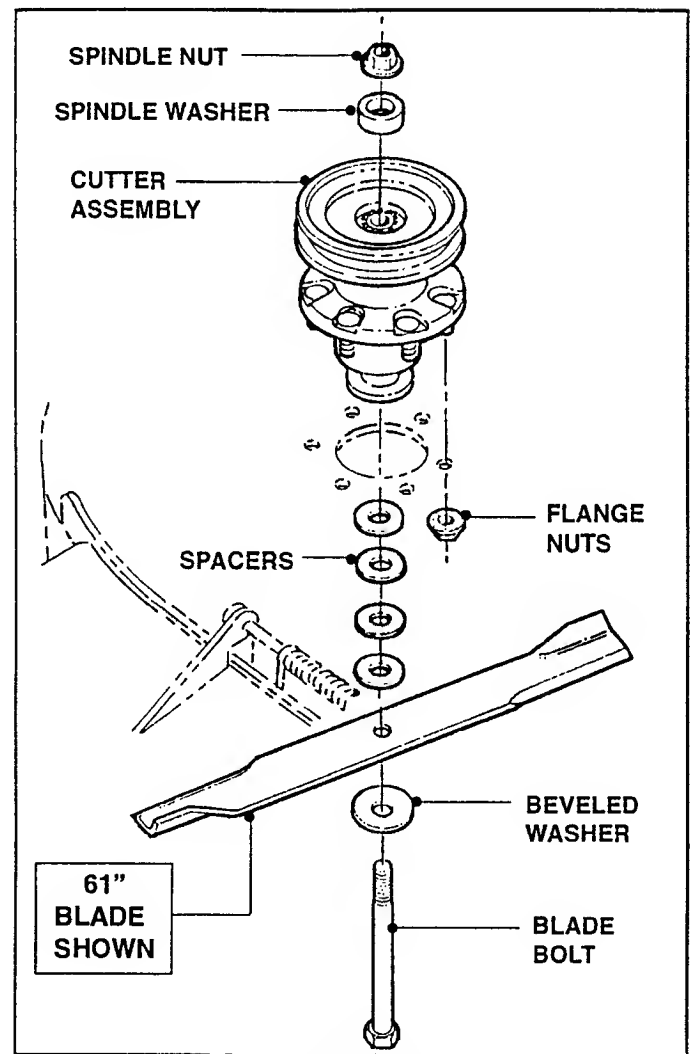

FIGURE 9.4
- C. Remove Spindle Nut, any Spacers and Spindle Washer from top of Spindle. See Figure 9.4.